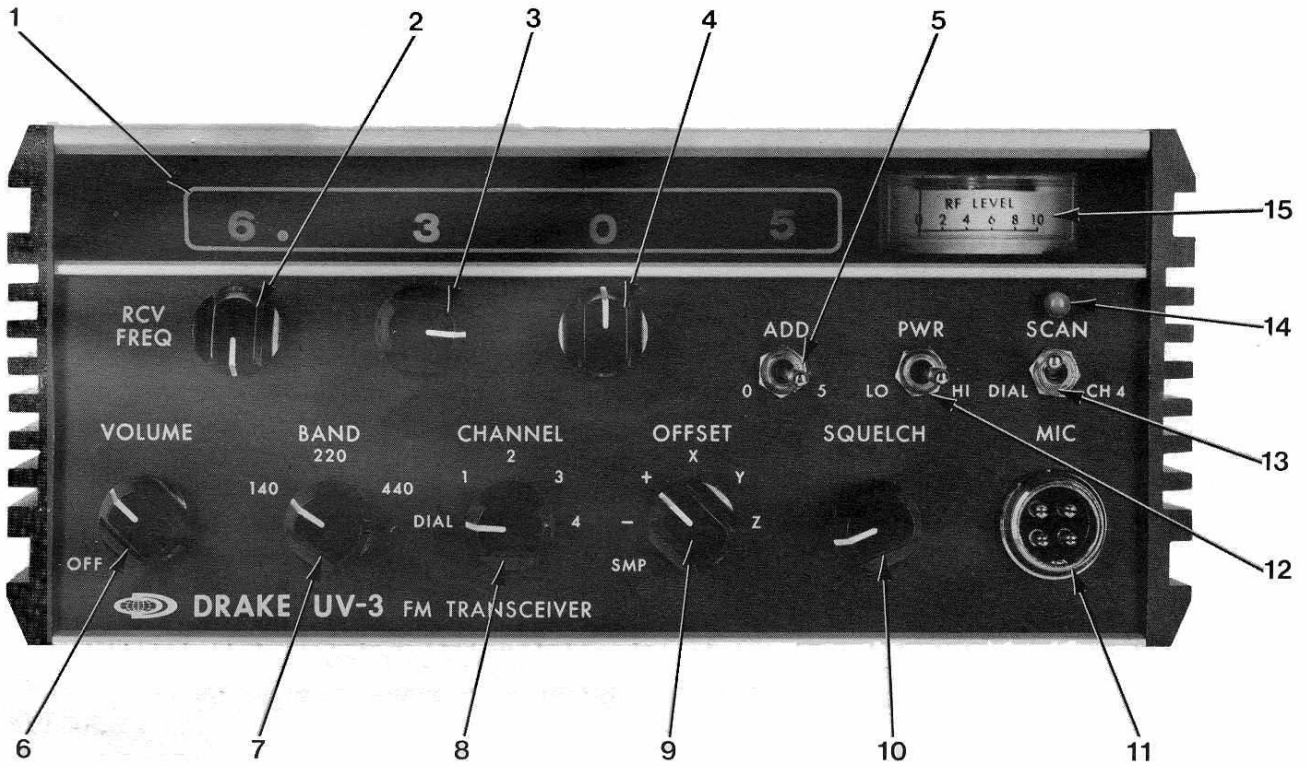

Figure 3-1. Front Panel Controls
Figure 3-1 shows a view of the UV-3 front panel controls and connections. The function and operation of each control will be described opposite the illustration.
In normal operation, the receive frequency is selected by adjusting the frequency selector switches (Items 2, 3, 4, and 5 in figure 3-1) until the desired frequency is shown on the transceiver readout. The term "Normal Operation" refers to operating the transceiver with the CHANNEL selector in the "Dial" position, and the SCAN switch in the center or "off" position. The BAND switch must be correctly set in order to obtain the desired receive frequency. For example, in the "140" position, the BAND switch actually programs 140 into the frequency synthesizer. The remaining digits of the desired receive frequency are then selected by adjusting the three rotary switches beneath the display window. If 5 kilohertz is required, it is added to the value shown on the readout by selecting a "5" on the ADD switch.
Figure 3-1 shows the front panel controls of the UV-3. Item (8) indicates the CHANNEL selector which allows selection of the receive frequency shown on the readout, or a receive frequency as programmed on the 140 PROGRAM BOARD or 220/440 PROGRAM BOARD. With the CHANNEL selector in the "DIAL" position the transceiver will *receive* the frequency indicated by the BAND switch and the readout. The proper transmit offset is then selected by the OFFSET switch. *The OFFSET switch selects an offset only when the CHANNEL selector is in the "DIAL" position.* When the CHANNEL selector is in "1", "2", "3", or "4" the receive frequency *and* transmit offset are determined by the diode programming on the program boards. Selecting the transmit offset from the program boards allows operation of repeaters having nonstandard offsets.
Figure 3-1 shows the front panel controls of the UV-3. Item (13) denotes the SCAN selector which is used to determine the mode of scanning. When the switch is in the center position all scan operations are disabled and operation of the UV-3 is described above. With the SCAN switch in the "DIAL" position the transceiver receives the frequency as determined by the setting of the BAND